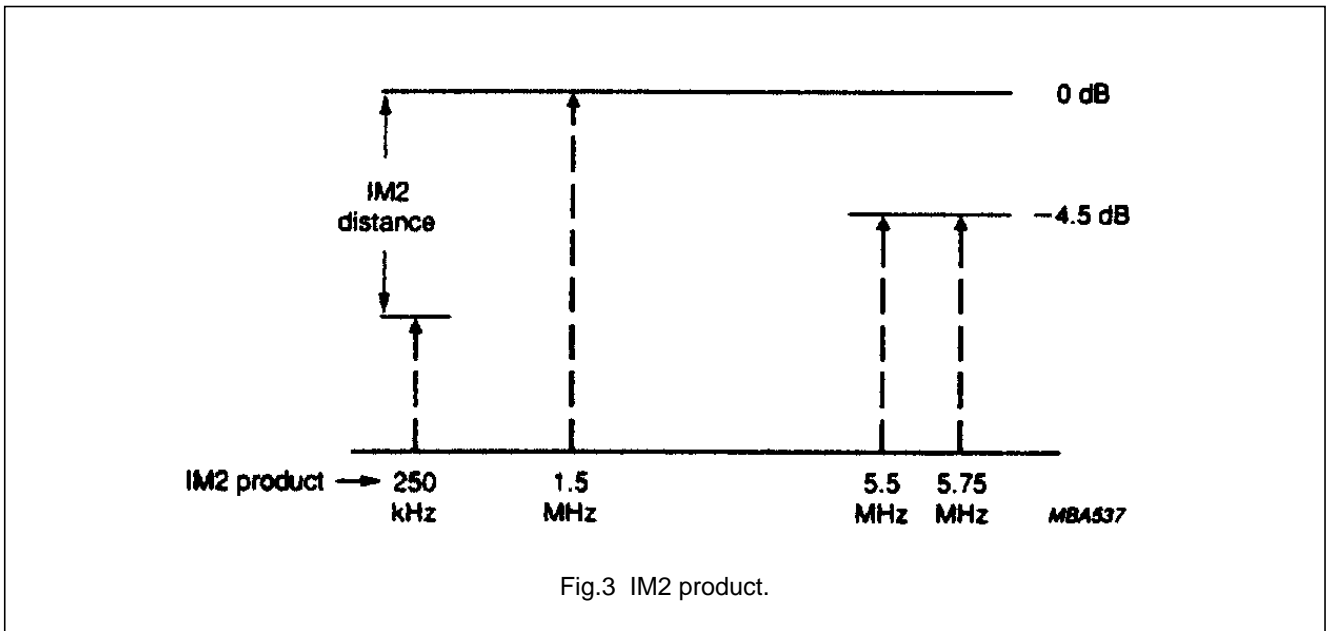

Fig.3 IM2 product.
- For the intermodulation measurement, an FM test signal is applied having the following modulating components: 1.5 MHz reference sine wave with a deviation of 9.45 MHz(p-p), 5.5 and 5.75 MHz sine waves with deviation 5.6 MHz(p-p) (so 4.5 dB below the reference, see Fig.3). At the demodulator output the 2nd order intermodulation is defined according to Fig.3. The video output is loaded with 500 Ω resistor + DC blocking capacitor.